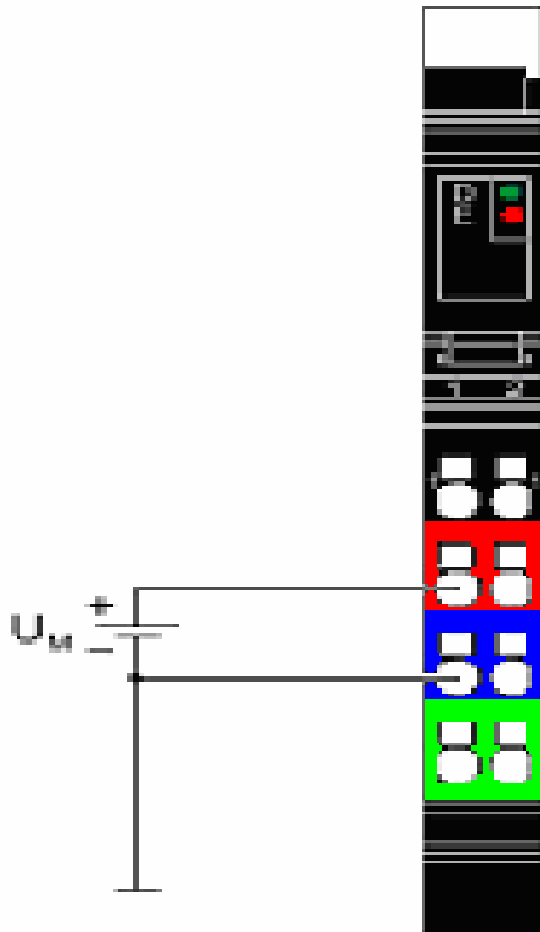

Figure 3
- Connect +24VDC to pins 1.2, and 2.2 (RED Terminals) on the Power In Module (CON-PDM). (See Figure 3)
- Connect -24VDC to pins 1.3 and 2.3 (Blue Terminals) on the Power In Module (CON-PDM). (See Figure 3)